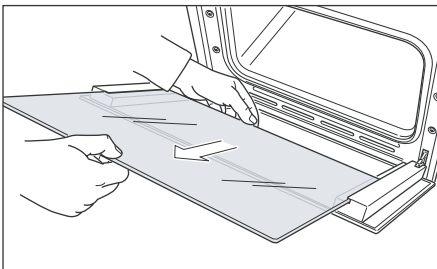

Fig.48e
- Gently pull out the inner pane of glass (Fig. 48e).